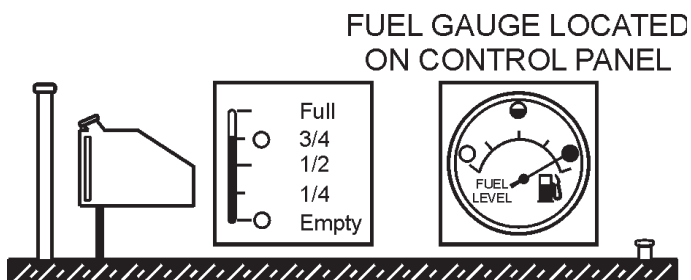

Figure 35. Full Trailer Tank
3. **NEVER overfill trailer fuel tank** – It is important to read the trailer fuel gauge when filling trailer fuel tank. **DO NOT** wait for fuel to rise in filler neck. See Figure 35.